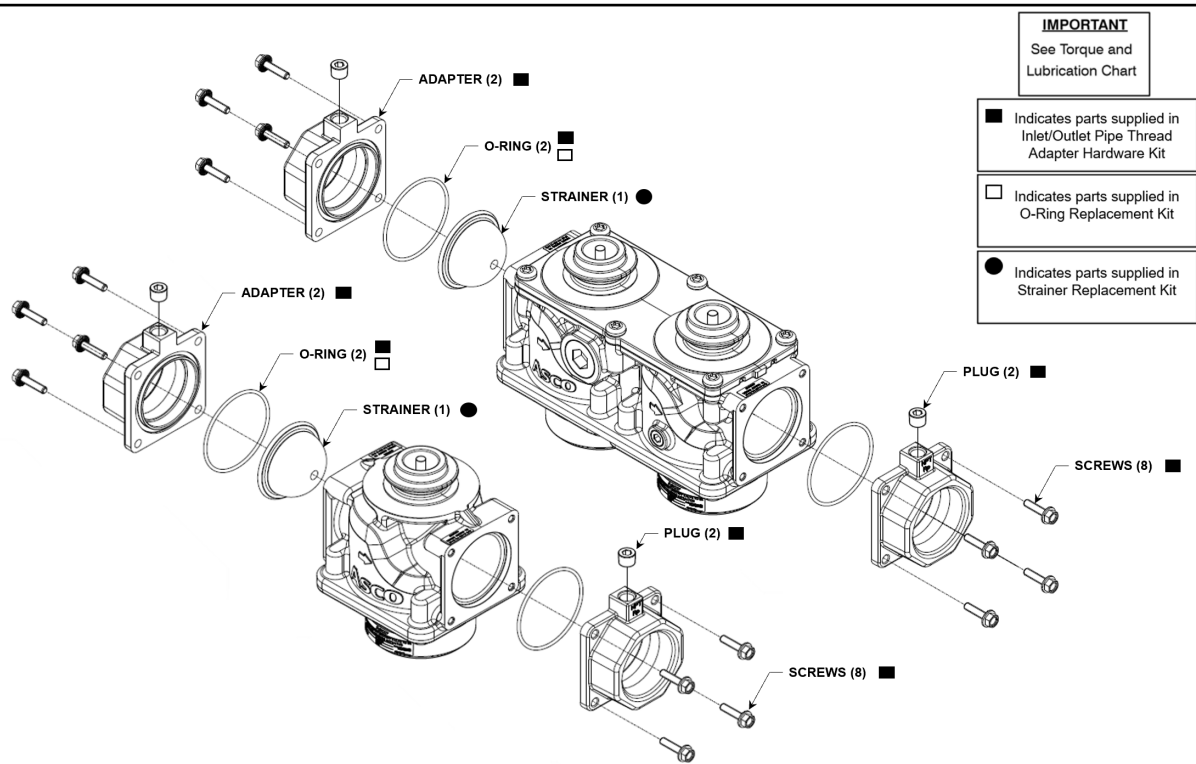

Figure 1. Inlet/Outlet Pipe Thread Adapter Hardware Kits
When tightening the pipe, do not use the valve or actuator as a lever. Locate wrenches on the valve body, pipe thread adapter's hexagonal section or piping as close as possible to the pipe joint. The valve train assembly must be checked for external leakage at piping connections and at gasket (O-ring) seal face after installation. (See Figure 1).
8. Noting valve flow direction, install valve between the upstream and downstream thread adapters while ensuring that the o-rings are properly seated in the upstream adapter and in the outlet adapter. It may be necessary to spread the pipe nipples and installed thread adapters to be able to gain adequate clearance to install the valve. Install the required hardware in Figure 1 in the upstream thread adapter to valve inlet only and make hand tight. Adjust upstream thread adapter and valve to ensure that the exterior edges of the valve and thread adapter are parallel and flush one another. Use hex profile of thread adapter to apply torque with wrench. Torque hardware in an alternating manner to the specified torque requirement based on hardware size (See Table 2).